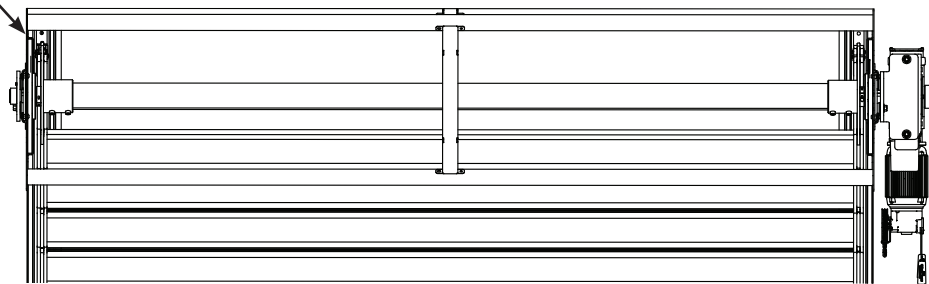

Figure 21: Adjustable Link Location
11. Tighten or loosen nut on adjustable link to raise or lower left side of curtain until curtain is straight and true with face frame extrusions (Figures 21 & 22).